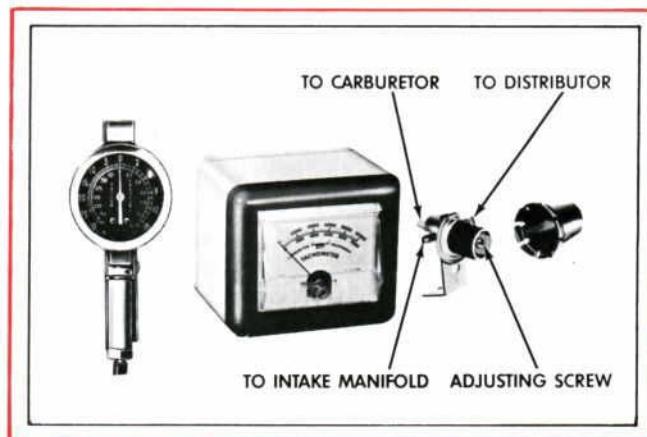

Figure 3—Vacuum Advance Control Valve (Deceleration Valve)
The distributor vacuum advance control valve also referred to as the distributor vacuum deceleration valve, is one of the methods used to control timing during engine deceleration. The following testing procedure for the distributor vacuum advance control valve is for Ford-built vehicles only. See Figure 3.
7. It is normal during this period for a buzzing sound to be heard. If it takes less than one second or more than three seconds for the distributor vacuum to fall below six inches of mercury, adjust the valve. Turning the spring end adjusting screw counterclockwise will increase the time the distributor vacuum remains above six inches of mercury after the throttle is closed. One turn of the adjusting screw, Figure 3, will change the valve setting approximately one-half inch of mercury. If the valve cannot be adjusted to manufacturer's specifications, replace the valve.